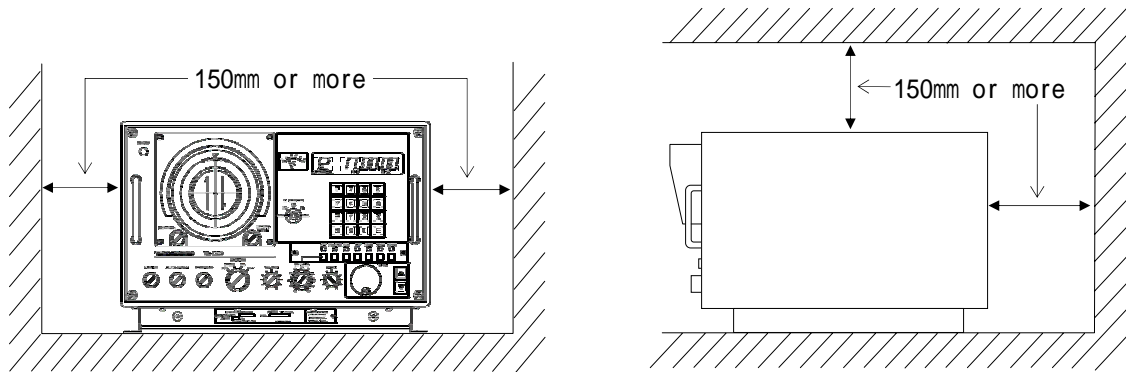

Fig. 3-10 Position of main unit
- (1) Select a suitable location for the main unit to avoid direct sunshine, water splash, high temperature and strong vibration.
- (2) Ample space for operation and maintenance and good ventilation as shown in Fig. 3-10 is recommended.
- (3) Keep enough separation from noise sources such as radio transmitter, inverter, radar, etc.